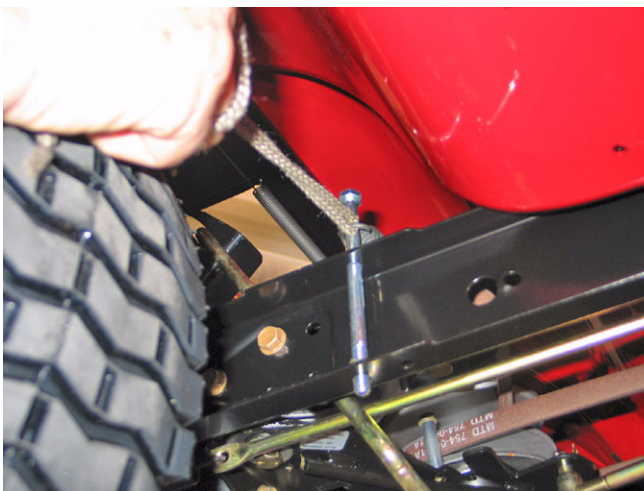

Figure 27
- 7.4. Remove the small tension spring attached between the long bolt extending up from the frame and the transmission idler pulley. See Figure 27.